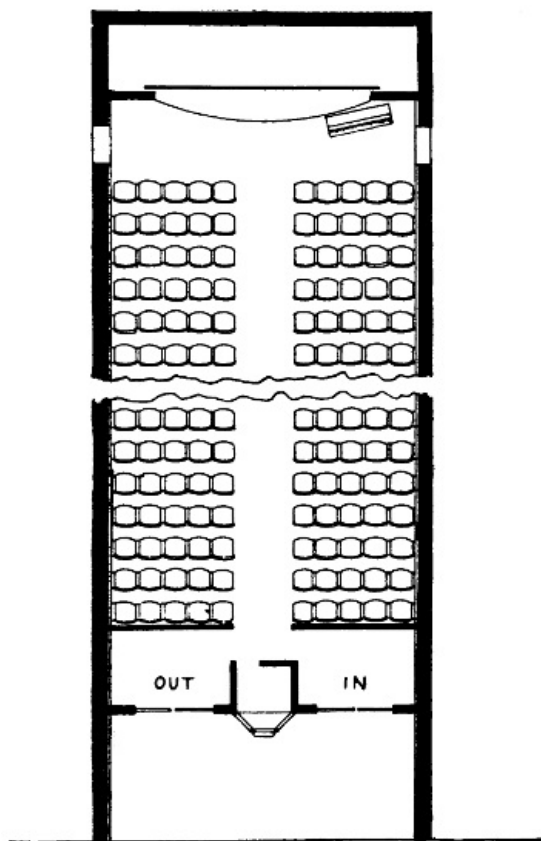

FIGURE 126.
*Moving-Picture Theater.*—Figure 126 is a plan of a typical small moving-picture theater. A spacious lobby is an important adjunct to any such theater and this space is often as valuable as the seating space inside. It affords shelter to those who cannot be seated at the moment. It is especially convenient in localities where race suicide is not yet very noticeable and where it forms a repository for many baby carriages.